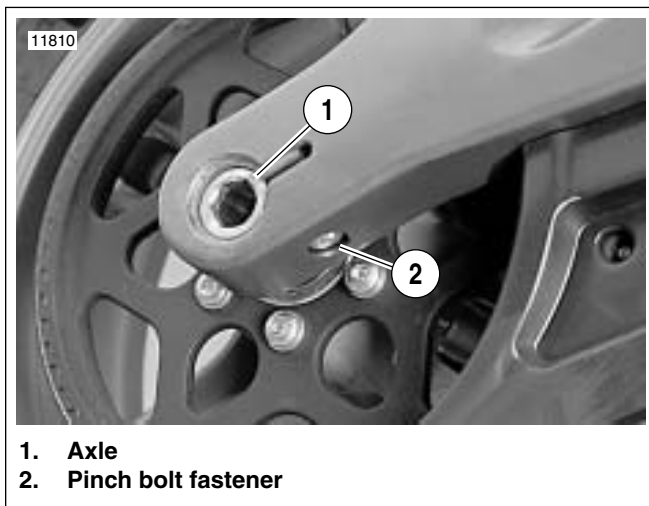

Figure 6-43. Rear Wheel Mounting, Right Side
1. See Figure 6-43. Loosen rear axle pinch fastener (2).
5. See Figure 6-43. Install and tighten rear axle (1) to 23-27 ft-lbs (31.2-36.6 Nm), back off two full turns and then retighten to 48-52 ft-lbs (65.1-70.5 Nm). See 6.6 DRIVE BELT SYSTEM.
6. Tighten rear axle pinch fastener (2) to 40-45 ft-lbs (54-61 Nm).